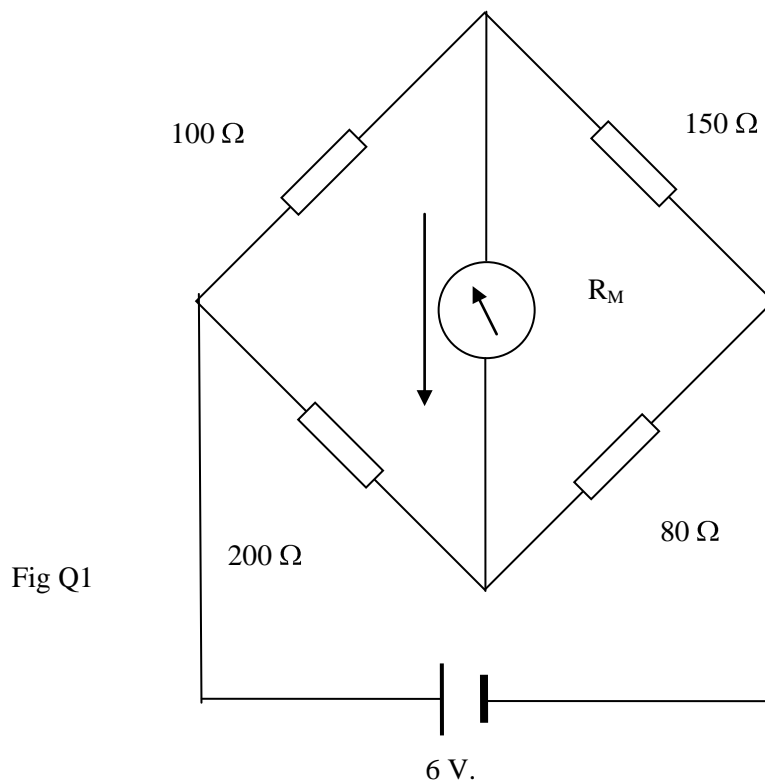

Fig Q1
1. (a) For the measuring network shown in Fig Q1 calculate the resistance (R_M) of the moving coil instrument if it is to read 10 mA. (8)
- (b) Calculate the reading on the instrument if the 100 Ω and the 80 Ω resistors are interchanged. (8)